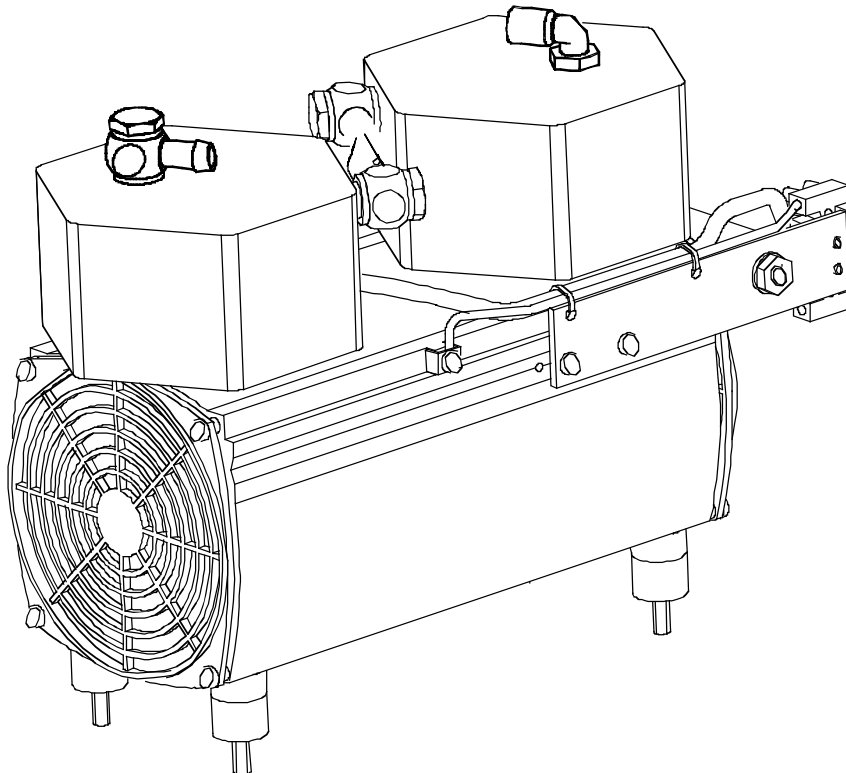

Fig. 7 MVP 035
b) HLT 270: MVP 035 (→ Fig. 7)